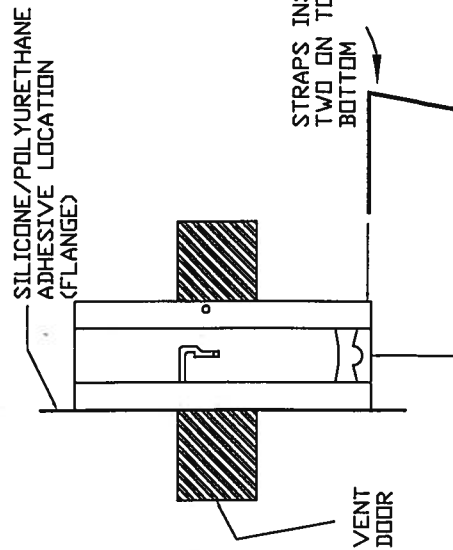

FIGURE 2
3. Apply a bead of silicone or polyurethane adhesive around the back of the flange on the vent frame. (FIG. 2)